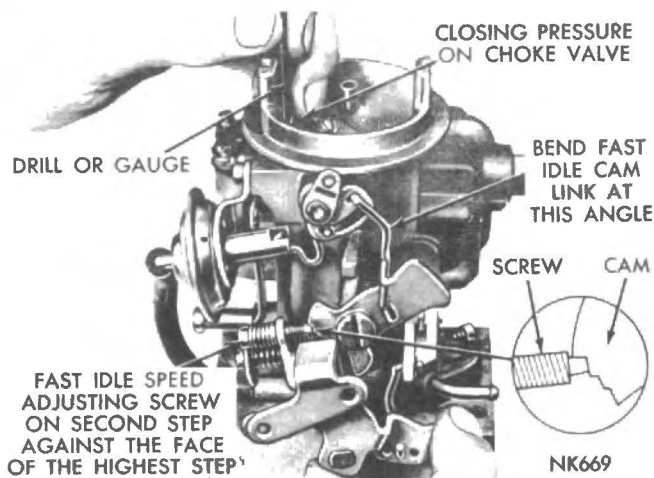

Fig. 25 - Fast Idle Cam Position Adjustment.
(1) Position the fast idle screw on the first step of the cam (refer Fig. 25).
(2) Apply a light closing pressure to the choke valve and insert a 15/64" drill between the choke valve and the air horn. A slight drag on the drill indicates correct adjustment.
(3) To adjust, bend the fast idle rod using Tool T109-213 until the correct valve opening has been obtained (refer Fig. 25).